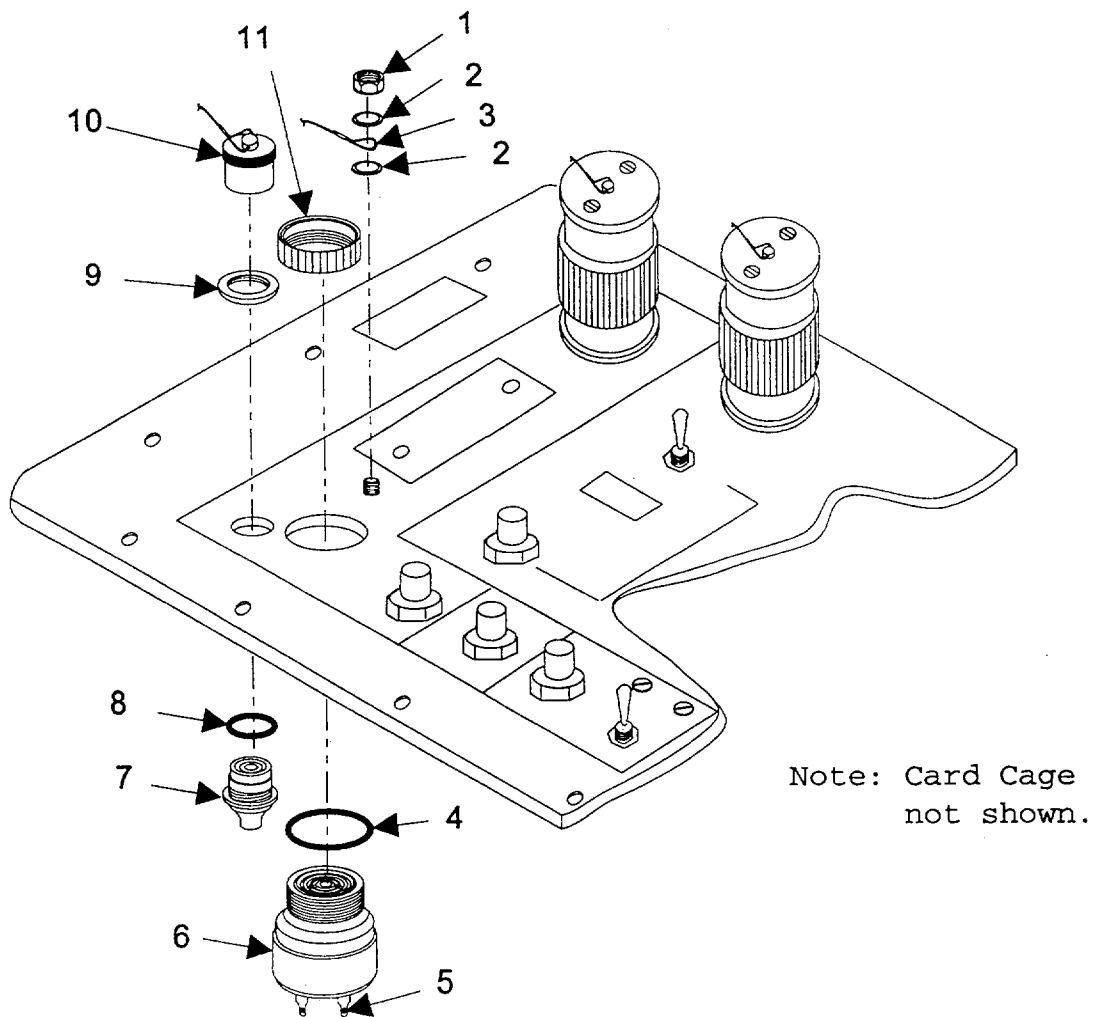

Figure 5-9.3. Audible Alarm and Electrical Connector Replacement.
- (1) Remove PS CCA, (refer to para. 5-10a).
- (2) Remove FTF CCA, (refer to para. 5-9a).
- (3) Remove MCF CCA, (refer to para. 5-8a).
- (4) Tag wires on audible alarm (6, Fig. 5-9.3).
- (5) Remove two screws (5) and remove tagged wires.
- (6) Unscrew locking ring (11) on front panel.
- (7) Remove audible alarm and examine O-ring (4) for damage.
- (1) Unscrew and remove cover (10, Fig. 5-9.3) from electrical recepticle connector (7). Remove cover from Front Panel as follows:
- (a) Using nutdriver remove and retain self-locking nut (1).
- (b) Remove and retain flat washers (2) and lanyard (3).
- (2) Tag wires on electrical recepticle connector.
- (3) Desolder wires.
- (4) Remove nut (9) using spanner wrench.
- (5) Remove electrical recepticle connector and examine O-ring (8) for damage.